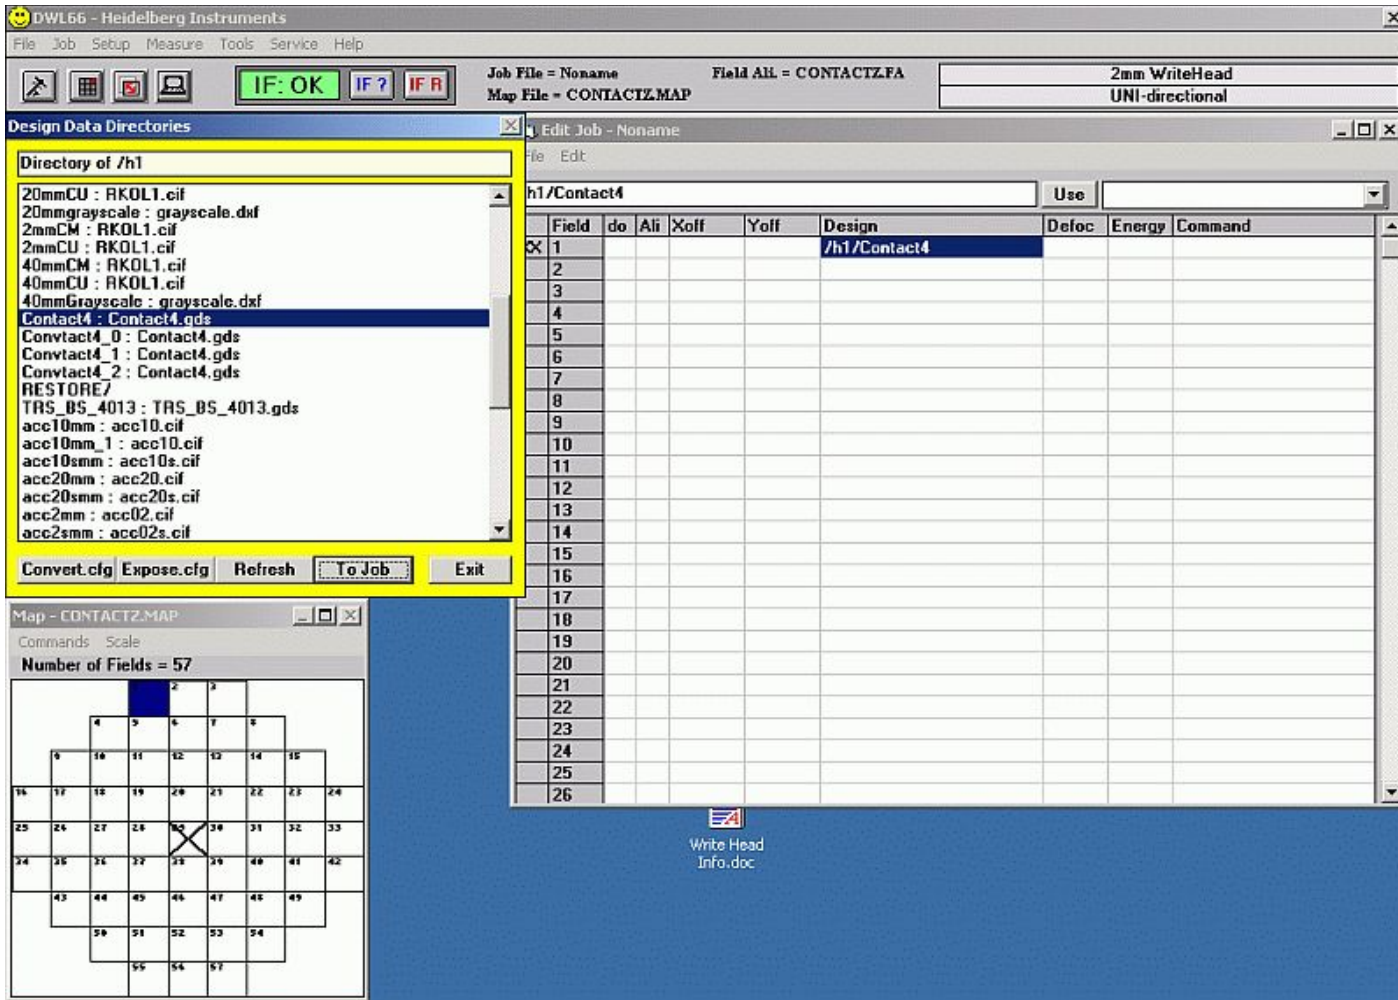

Figure 3-5: Window for making a job
- **DWL MENU:** Navigate to *Job* → *Make Job*. Also from the main menu, choose *File* → *Designs*. The screen should look like figure 3-5